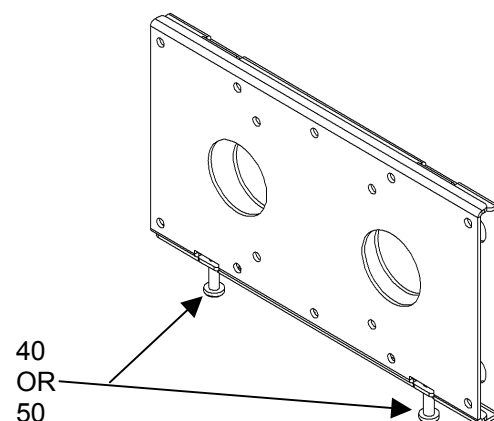

Figure 9. Carefully Tighten Locking Screws
2. Tighten the two locking screws (40 or 50). See Figure 9.